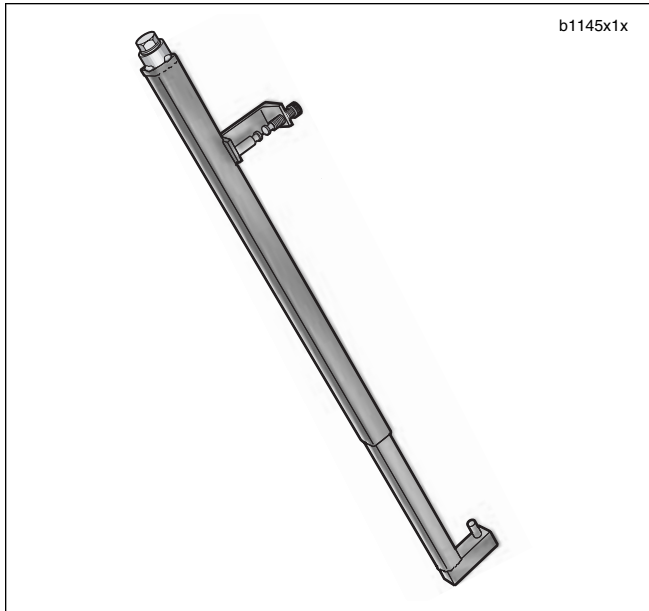

Figure 2-70. Fork Spring Compressing Tool (HD-45966)
6. See Figure 2-70. Move the fork assembly from the holding tool and compress fork in the FORK SPRING COMPRESSION TOOL.
8. Remove preload washer (4) and slider piston (5).
9. See Figure 2-70. Expand fork and remove from FORK SPRING COMPRESSION TOOL.